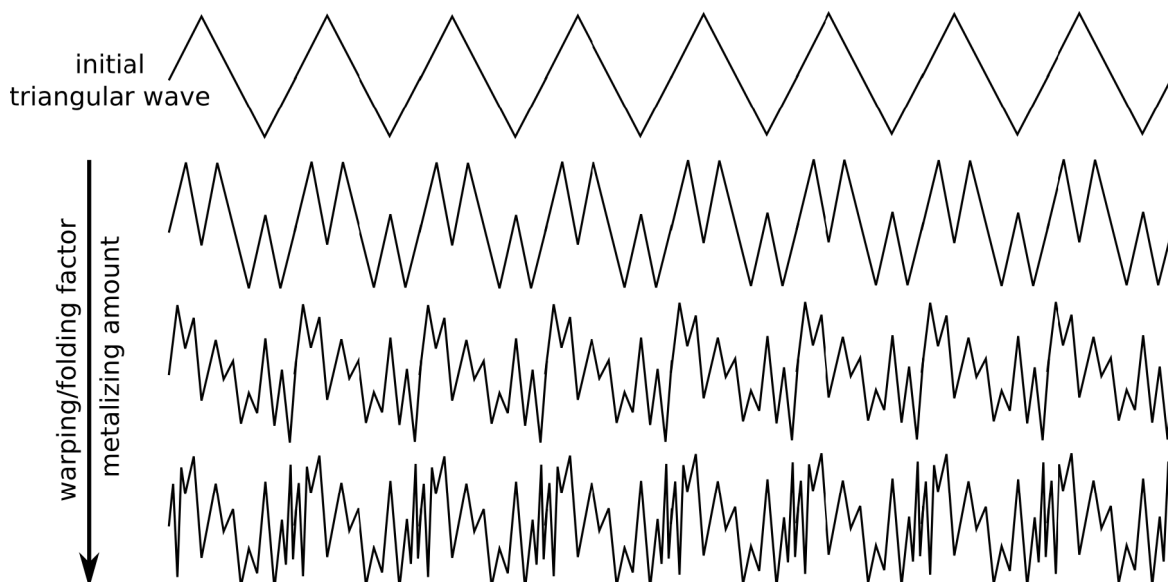

Figure 22
**The Metalizer** takes the basic triangular waveform and “warps/folds” it to create very complex jagged waveforms that are rich in high harmonics. This results in “metallic” sounds that are ideal for harsher tones that fit well in dance music or lead sounds that need to cut through a mix. The Metalizer has a default connection to the ENVELOPE via the MOD MATRIX. By turning up the ENVELOPE AMOUNT control and turning up the METALIZER knob, you will hear the effect. It can also of course be controlled via the LFO or Keyboard CV. Figure 22